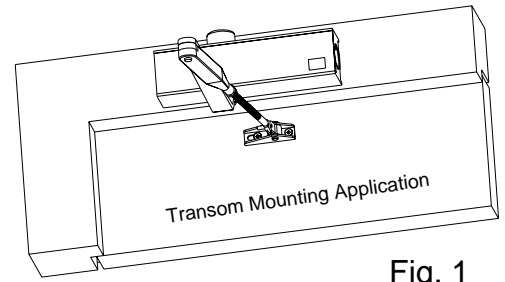

Fig. 1
2. Use Fig. 1 easi-fit template and select correct hand of door, stick template to top corner of door and frame, ensuring closer is mounted on frame and shoe is mounted on door. **(See Figs. 1 & 2)**